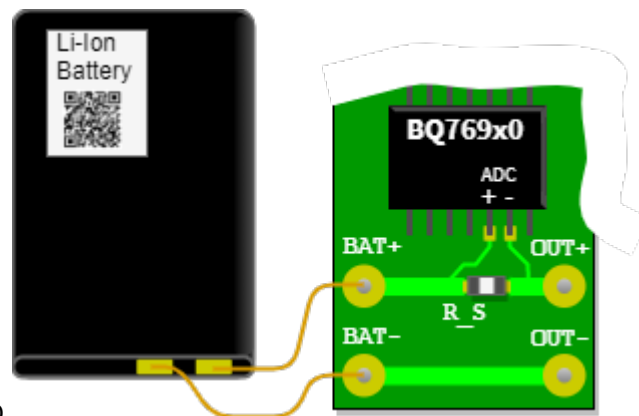

Fig. 24: Sketch of the setup
- The battery monitor BQ769x0 measures the charge and discharge currents of a lithium-ion battery by means of the voltage across a measuring resistor (shunt). In figure 24 the analog-to-digital converter (ADC) of this chip is connected to the shunt R_S via the circuit board. Through the shunt the discharge current flows from the battery connection $BAT+$ to $OUT+$ and via $OUT-$ back to $BAT-$. The shunt shall be designed so that the bipolar measurement signals have a voltage level in the range of -0.20 V to $+0.20 \text{ V}$. The analog-to-digital converter has a resolution of $15 \mu\text{V}$. The currents can be used to count the charge in the battery to determine the state of charge (SOC).